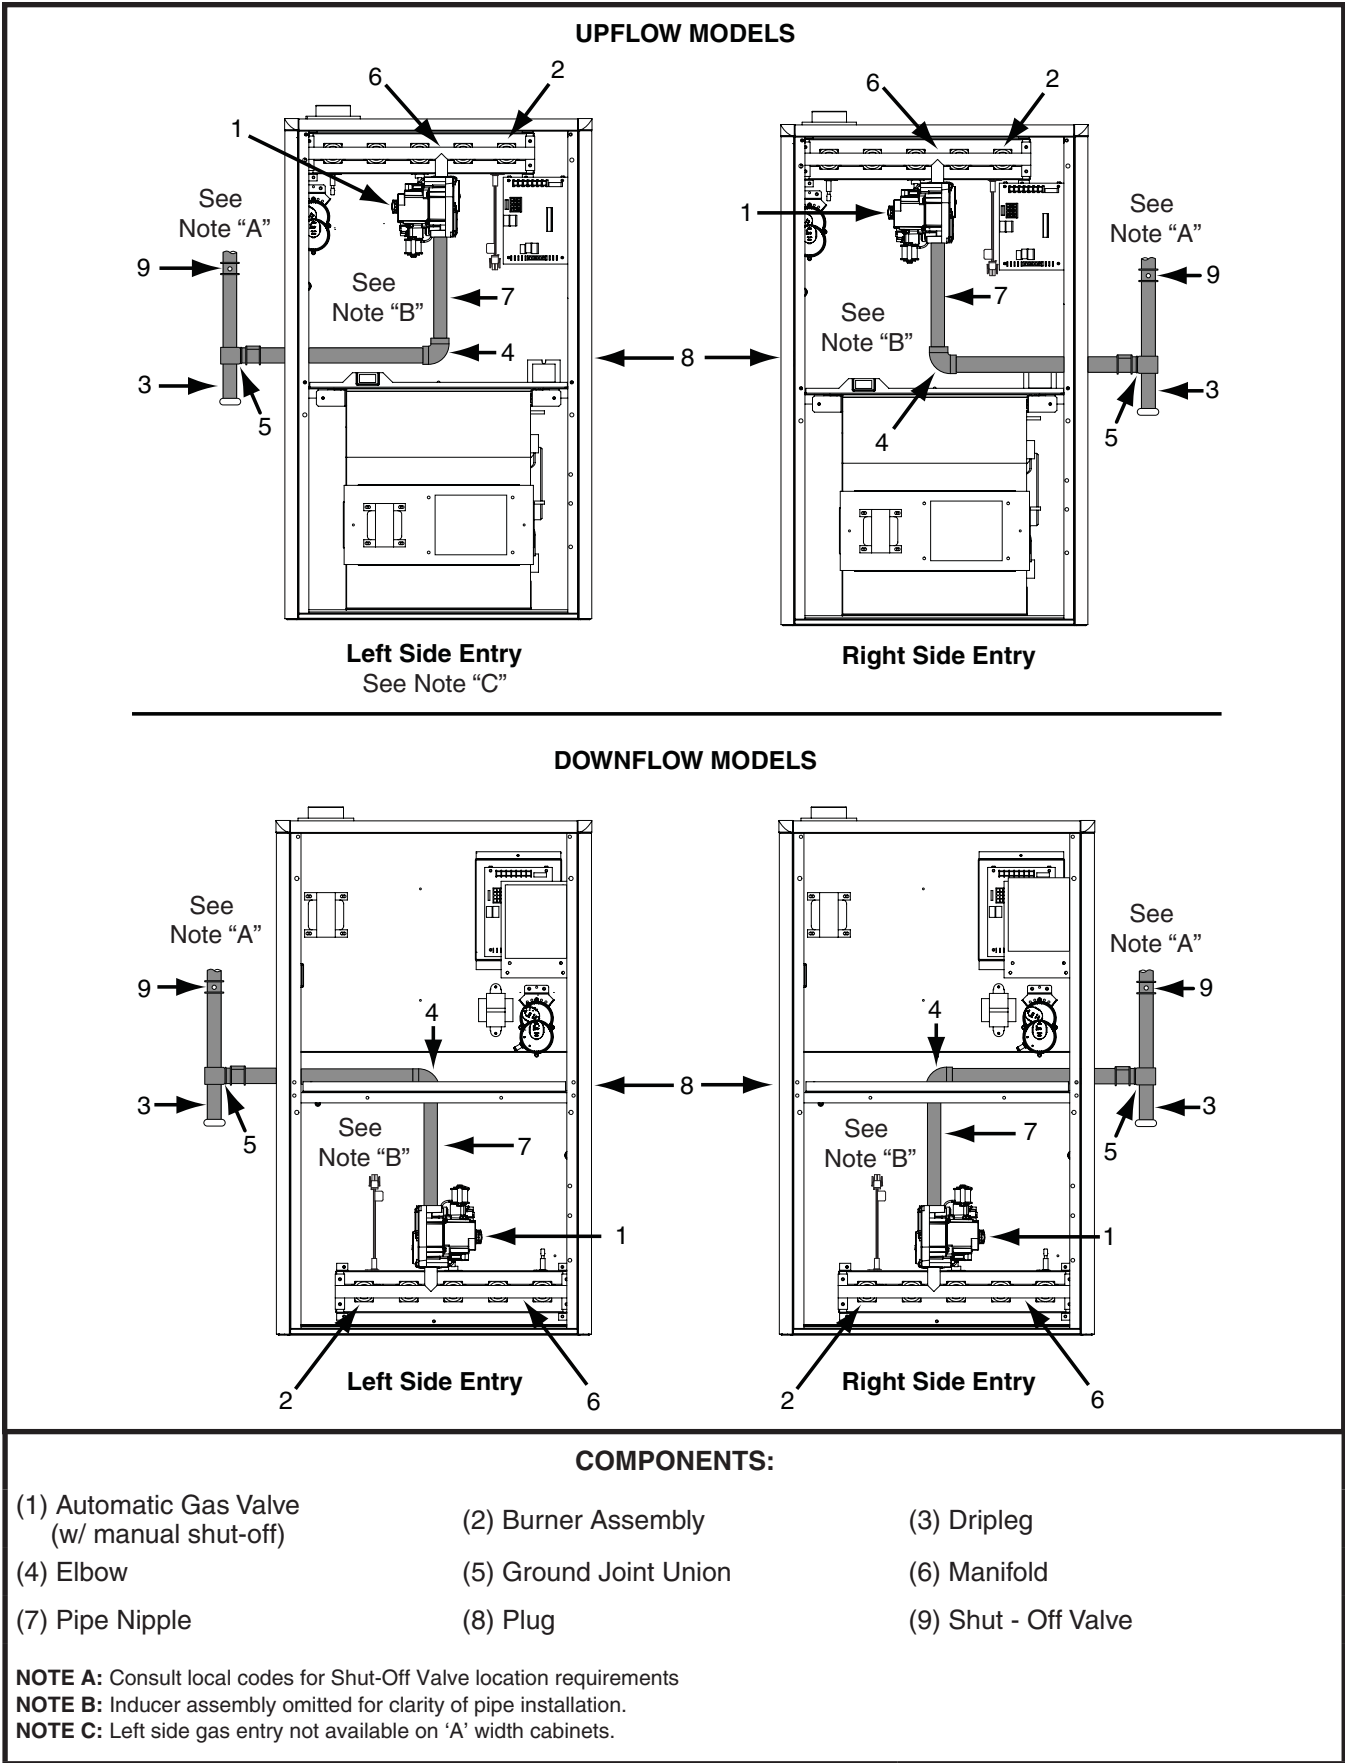

Figure 18. Typical Gas Connections
- Some local regulations require the installation of a manual main shut-off valve and ground joint union external to the furnace. The shut-off valve should be readily accessible for service and/or emergency use. Consult the local utility or gas supplier for additional requirements regarding placement of the manual main gas shut-off. See Figure 18 \(page 21\).
- A drip leg should be installed in the vertical pipe run to the unit. See Figure 18.
When connecting the gas supply, provide clearance between the gas supply line and the entry hole in the furnace casing to avoid unwanted noise and/or damage to the furnace. Typical gas hookups are shown in Figure 18.